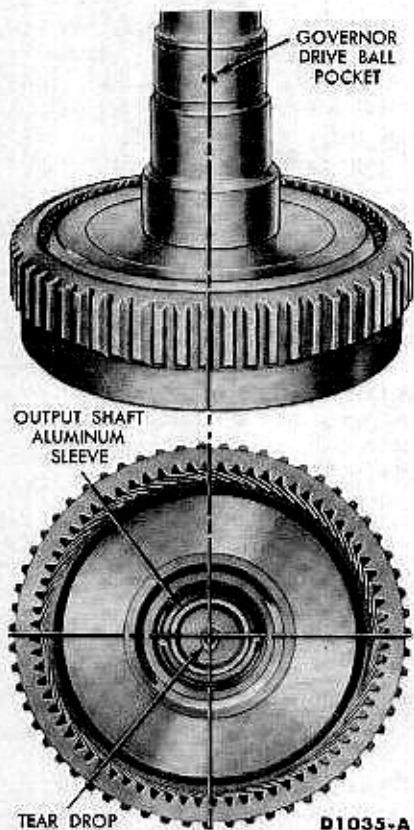

FIG. 7—Correct Position of Output Shaft Aluminum Sleeve
4. Inspect the output shaft sleeve for alignment with the governor drive ball (Fig. 7).